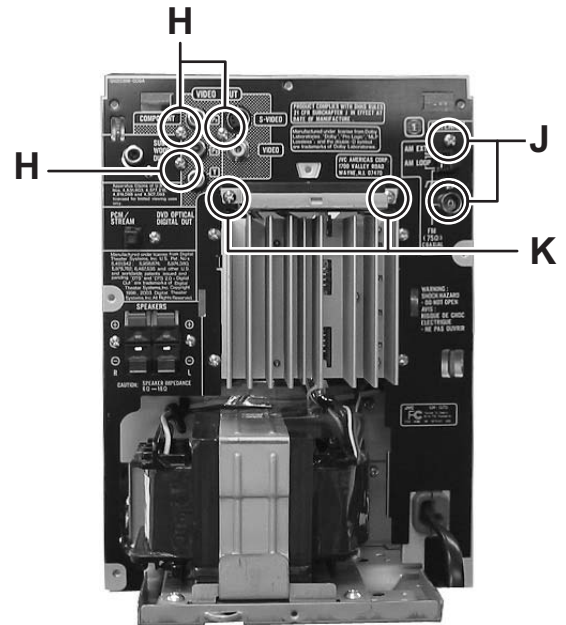

Fig.8
- (2) Remove the three screws **H** attaching the video board. (See Fig.8)
3.1.6 Removing the tuner pack (Fig.8, 9)
- (2) Remove the two screws **J** attaching the tuner pack. (See Fig.8)
3.1.7 Removing the fan (Fig.8, 9)
- (2) Remove the two screws **K** attaching the fan. (See Fig.8)